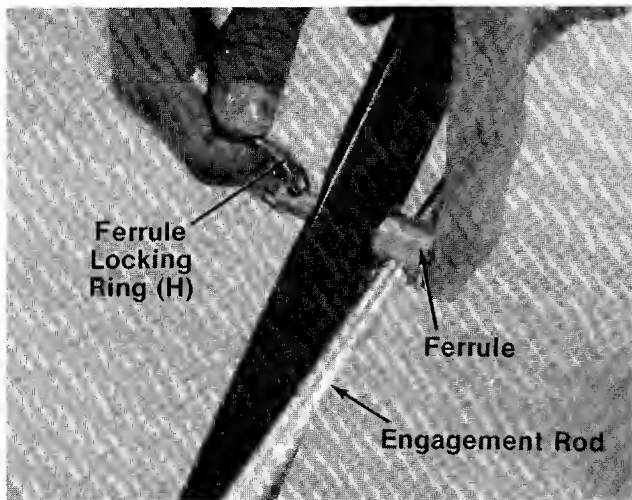

FIGURE 8.
11. Place ferrule (B) on threaded end of engagement rod. Thread ferrule onto engagement rod until it lines up with the hole in lower handle.
12. Place ferrule into hole in lower handle. Secure with ferrule locking ring (H). See figure 8.